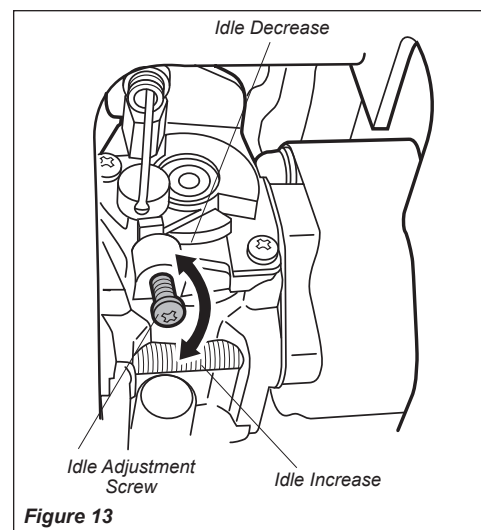

Figure 13
2. If a tachometer is available, the engine idle speed should be final adjusted to 2,000 ( $\pm 200$ )  $\text{min}^{-1}$ . See Figure 13.